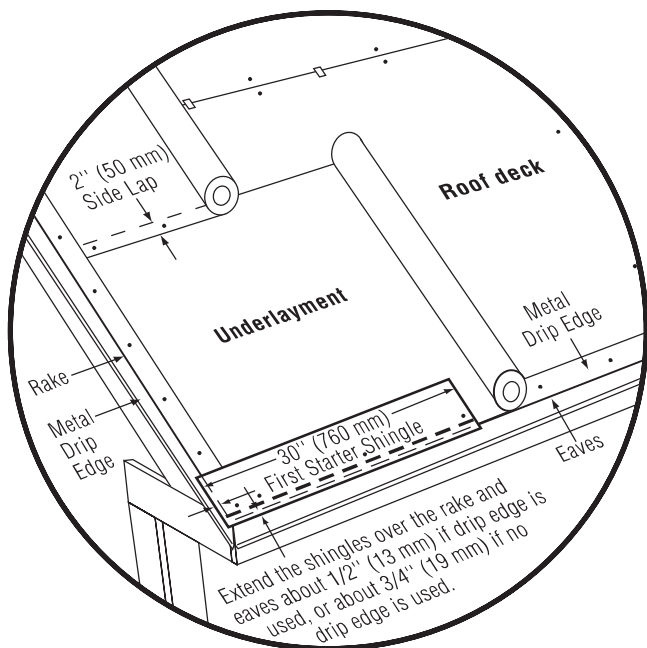

Figure 10-7: Standard slope underlayment and starter drip edge details.
3. Continue with full-length starter course shingles along the eaves (Figure 10-7).
2. Cut 5" off the length of the first starter strip and apply the resulting 31" piece at the lower left corner of the roof. This starter strip should overhang the rakes and eaves 1/2" when drip edge is used, or 3/4" when no drip edge is used (*Figure 10-7*).